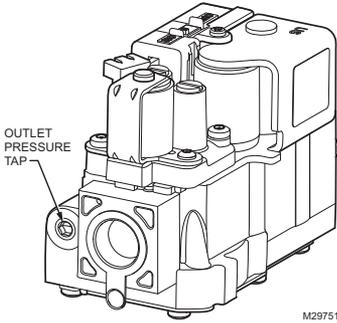

Fig. 3. Gas conversion kit: outlet.
4. With main burner operating on high fire, calibrate the high fire regulator setting using the meter clocking method or using a manometer connected to the outlet pressure tap on the control. See Fig. 3.
6. With main burner operating on low fire, calibrate the low fire regulator setting using the meter clocking method or using a manometer connected to the outlet pressure tap on the control. See Fig. 3.